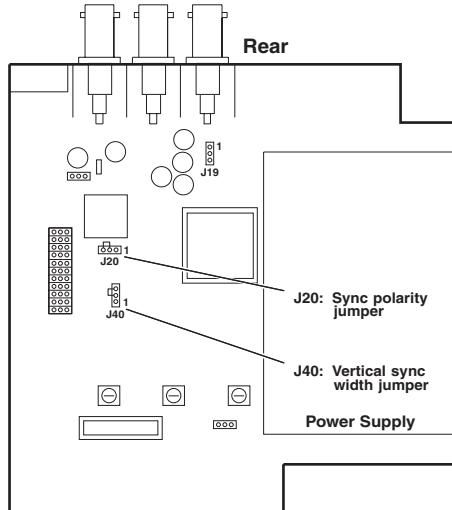

Figure 2-4 — Circuit board jumper locations
3. Note the positions of jumpers J20 and J40 before changing jumper settings (figure 2-4). There are two possible setting combinations for 3-pin jumpers: